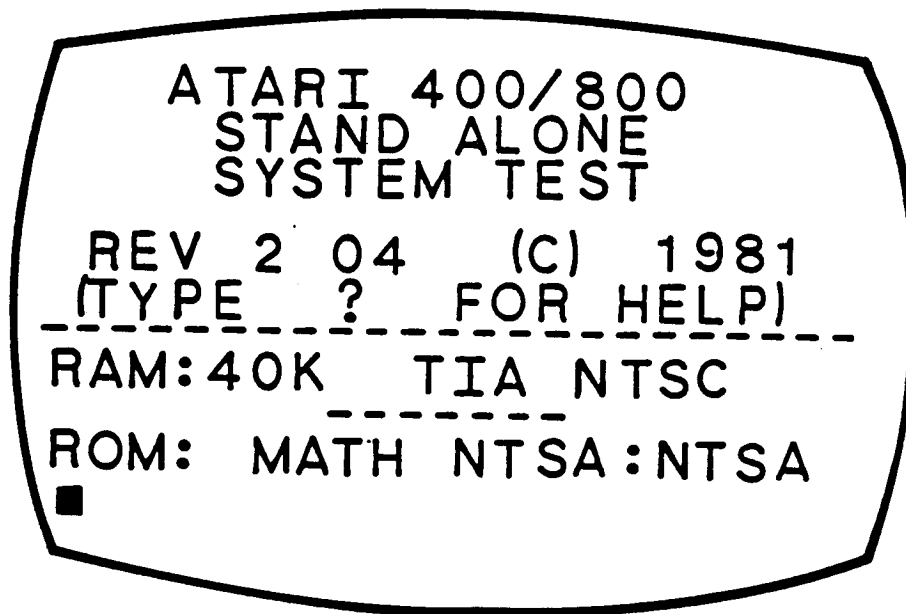

Figure 3-2. SALT Header
1. Turn the POWER off, insert the SALT II cartridge (for the 800, use the left cartridge slot), and turn the POWER on. The SALT Header should appear on the television screen (See Figure 3-2). This verifies that the CPU, Operating System (OS) ROMS, and the lower RAM are functioning.